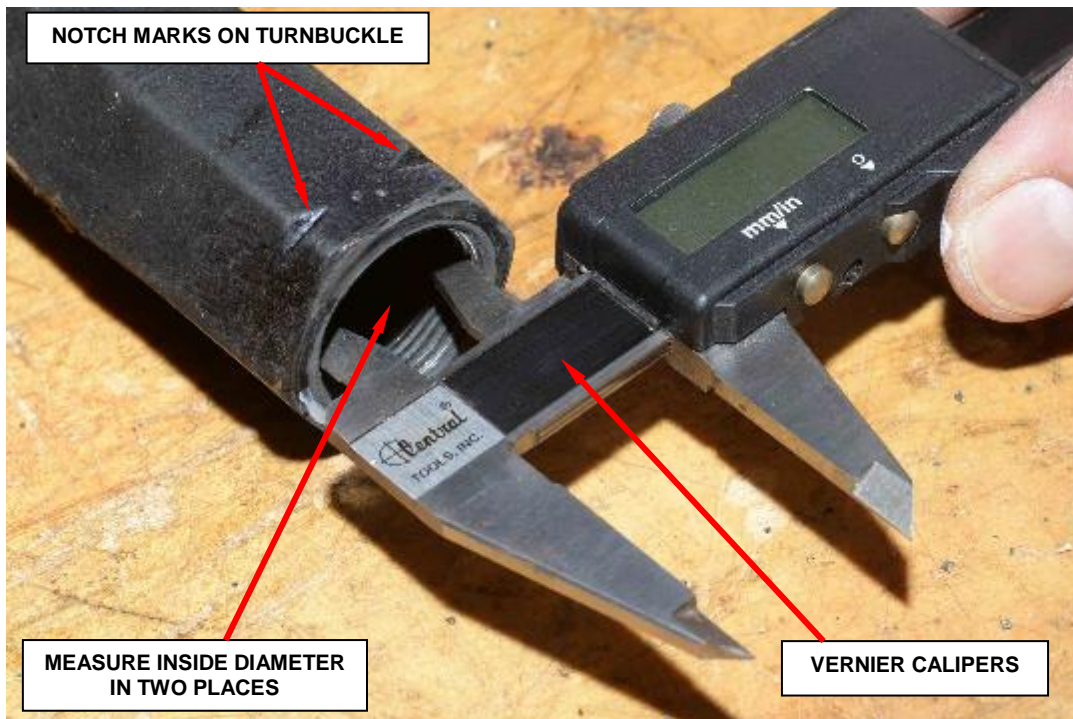

Figure 5 – Measure Inside Diameter of Turnbuckle at Notched End
4. Using Vernier Calipers, measure and record the inside diameter of the turnbuckle (**end with notch marks on hex**) (Figure 5).